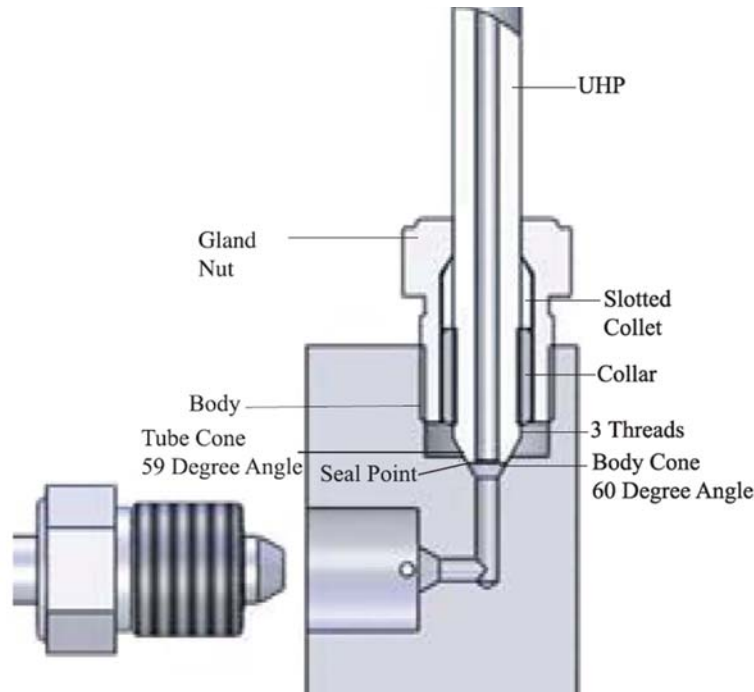

Figure 6-1: Components of the Ultra High-pressure Fitting
pressure fittings, the swivels, and the Dual ON/OFF valve. When fitting leaks occur, power OFF the pump, release any remaining high pressure, and re-torque the leaky fitting. If the leak persists, verify that the collar (Figure 6-1) is backed off, allowing at least three threads to show which is necessary for proper seating. Whenever a leak continues, the sealing surface is probably eroded which requires that the fitting be disassembled and any eroded parts replaced.
Maintaining the proper cone angles on the body and tube is critical in creating a high-pressure seal (Figure 6-1). This seal is created when the angled (59°) metal edges of the tube cone seats press against the metal edges inside the body cone which has a slightly larger angle (60°). This slight difference in angles between the body and tube cones creates a tight metal-to-metal seal between both components.
1. After the tubing and body have been properly coned and threaded, slip the **gland nut** (Figure 6-1) onto the **tubing**.